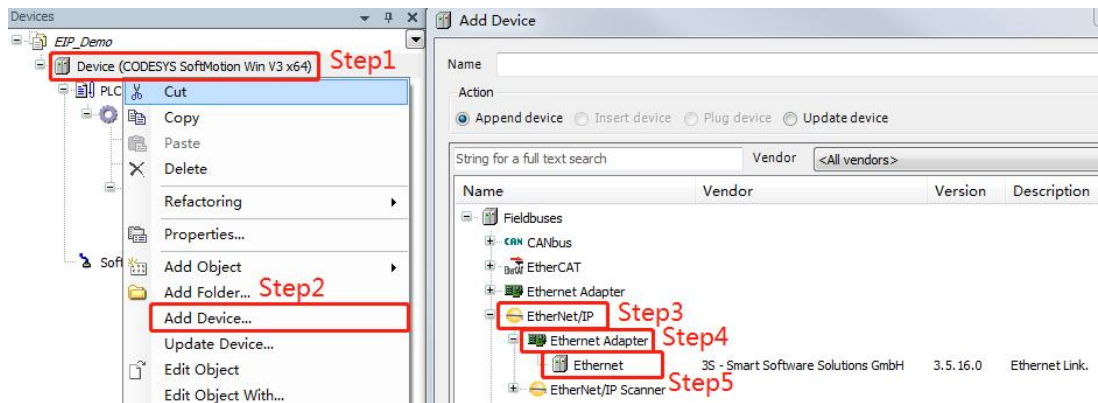

Figure 5-4-6
- As shown in Figure 5-4-6, in the device tree structure, right-click Device to add EtherNet.